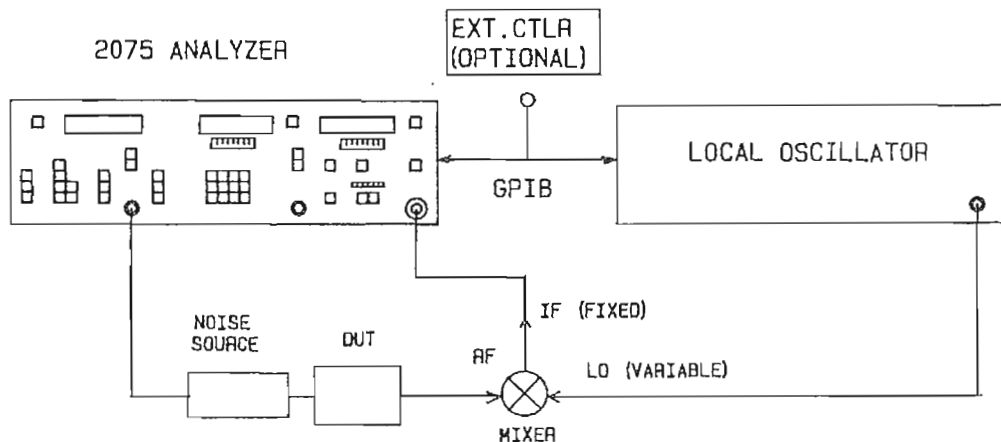

Figure 3-7b. TEST CONFIGURATION 2 MEASUREMENT (DOUBLE SIDEBAND)
20. Insert the Device Under Test into the setup, as shown in Figure 3-7b. If external relays are being used, ignore this step. Upon completing the calibration, the 2075 removes the actuating voltage from the relays to place the DUT in the measurement path (unless Special Function 10.1 has been activated).